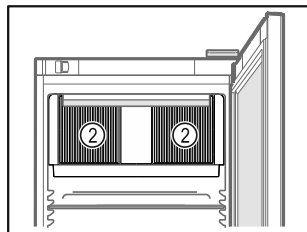

Fig. 76
- Ventilation slots Fig. 76 (2) for recirculation fan in the interior must be kept clear.